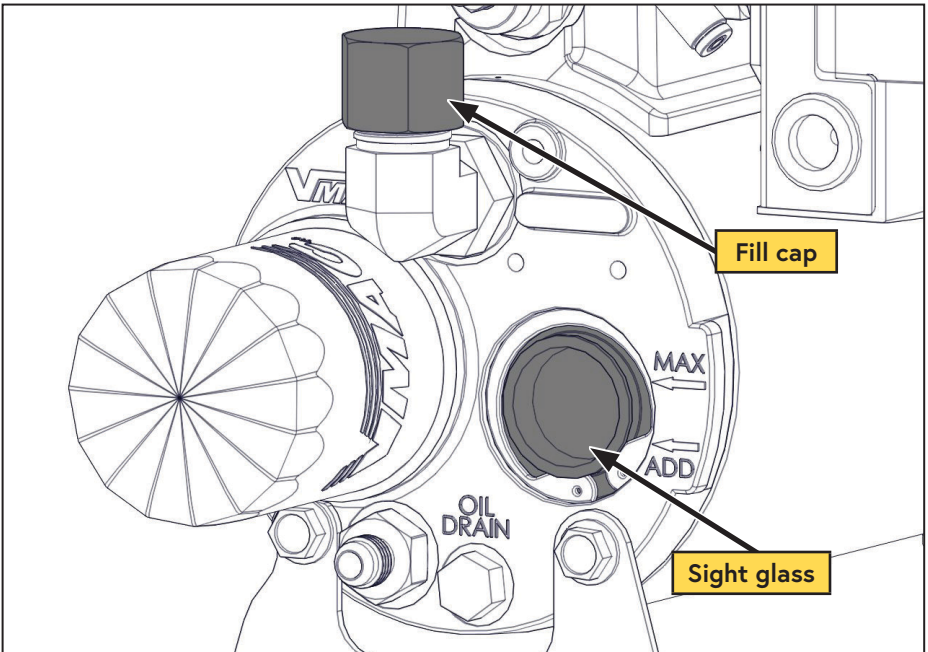

Figure 29 — Filling the WHASP Tank
- Remove the fill cap on the WHASP Tank (above the sight glass) (Figure 29).
- Using a funnel, pour oil into the tank until the oil level in the sight glass reaches the "MAX" line. **The system capacity is 4 L** (Figure 29).